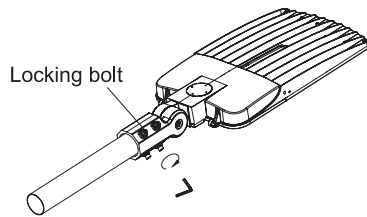

Figure 6
6. Tighten the 4 locking bolts back as Fig. 6.